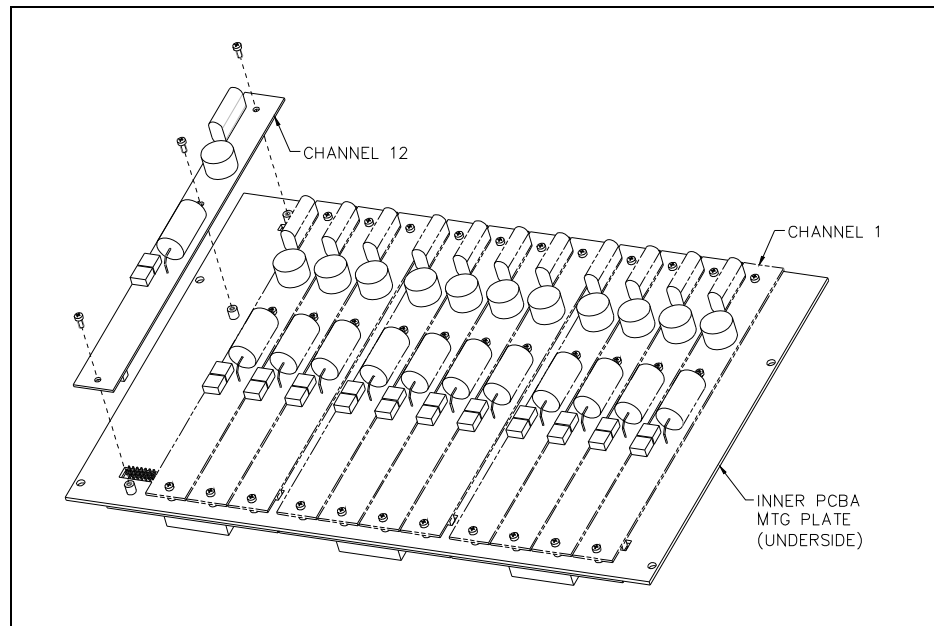

Figure 29.
6. Fasten the CDC board to the inner PCBA mounting plate using the three supplied #4-40 screws. See Figure 29.